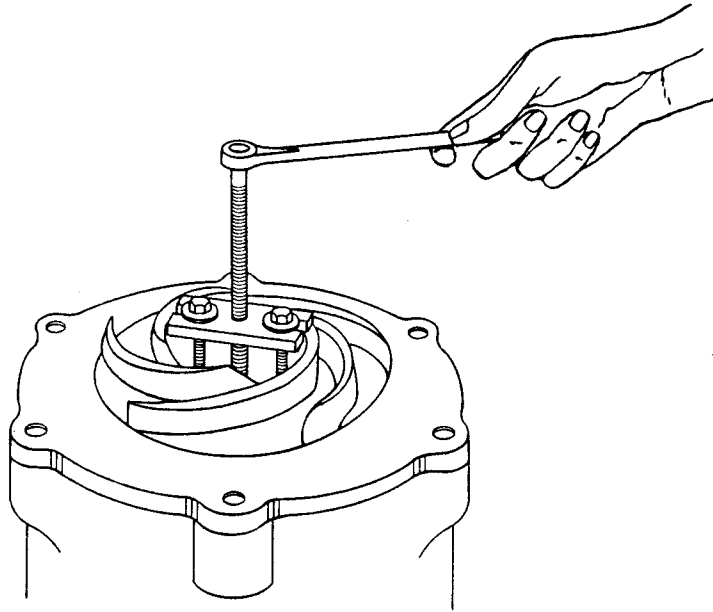

Figure 2. Removing Impeller With Puller
Remove the wood from the impeller vanes, and remove the capscrews (87) temporarily installed in the seal plate and lower motor housing. Refer to Figure 2, install the impeller puller supplied with the pump, and pull the impeller from the shaft. Use caution when removing the impeller; tension on the seal spring will be released. Retain the impeller key (86).